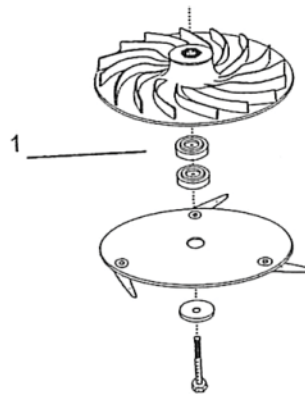

Figure 15
5. **To obtain a lower cut** add height adjustment spacer (s) between the impeller hub and the cutter disc. Remount the cutter disc. Install the flat washer and the impeller retaining bolt. Tighten the bolt securely. (Fig. 15)